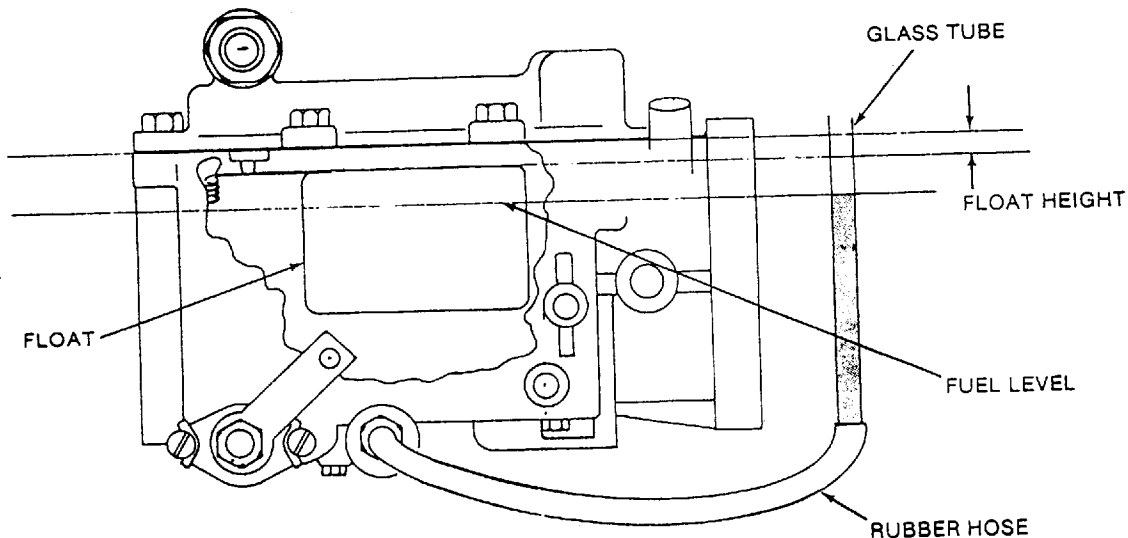

FIGURE 16
(See Figure 16)
- 120) With fuel supplied to the carburetor as shown in Figure 16 operate the throttle lever for several strokes to fill the accelerating pump and passages. Then close the throttle, open it fully again, and hold it for a few seconds. If the accelerating pump is operating correctly, a solid stream of fuel will be discharged from the accelerating pump discharge tube or jet and will gradually die away after the spring of the pump plunger reaches its limit.